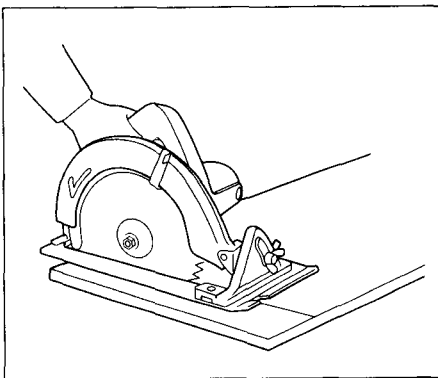
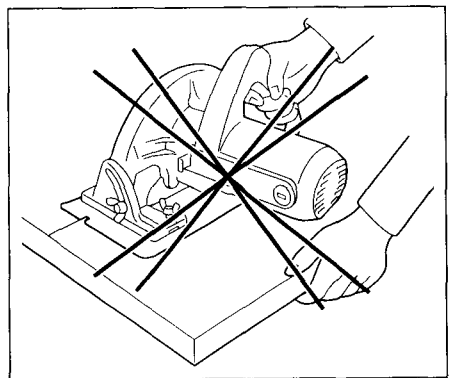

Fig. 4
Fig. 5
- 14. **Place the wider portion of the saw base on that part of the workpiece which is solidly supported, not on the section that will fall off when the cut is made.** As examples, Fig. 4 illustrates the **RIGHT** way to cut off the end of a board, and Fig. 5 the **WRONG** way. If the workpiece is short or small, clamp it down. **DON'T TRY TO HOLD SHORT PLACES BY HAND!**